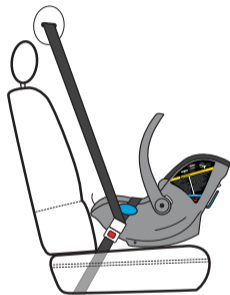

Figure 70
If you are still unable to shift Carrier so that blue Reference Line is parallel to the ground, remove the vehicle shoulder belt from around the back of the Carrier and let it retract into a position against the front of the vehicle seat back as shown in **Figure 70** and shift the Carrier so that the blue Reference Line is parallel to the ground, or move to another seating position.
- DO NOT wrap shoulder belt around back of Carrier. Let the shoulder belt retract into a position against the front of the vehicle seat back as shown in **Figure 70**.